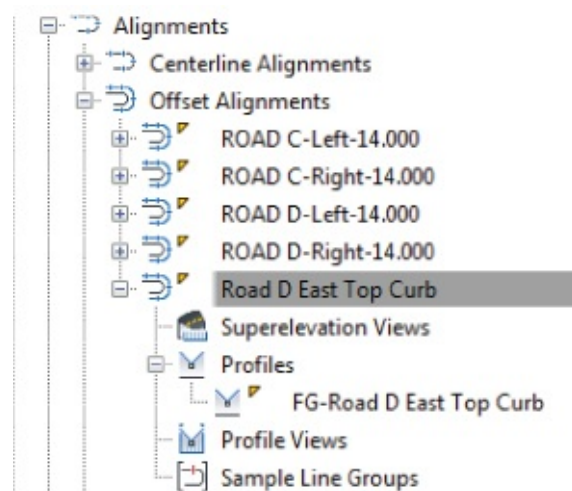

Figure 9.26 A completed alignment and profile shown on the Prospector tab of Toolspace
11. In Prospector, expand Alignments > Offset Alignments > Road D East Top Curb > Profiles to review the completed alignment and profile (see Figure 9.26).